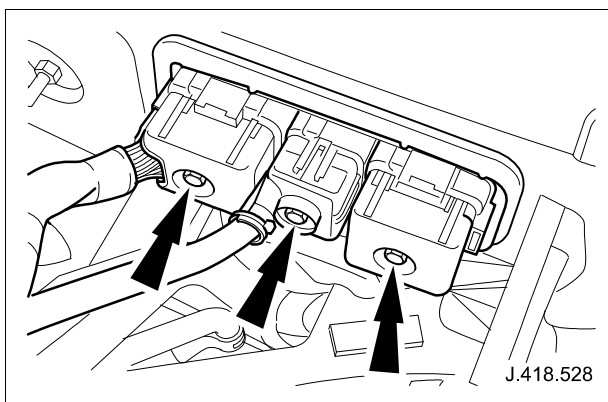

Fig. 15
- 4.3 Check PCM connectors, as shown in Fig. 15. (Torque tighten to $4.8\text{Nm} \pm 0.8\text{Nm}$)